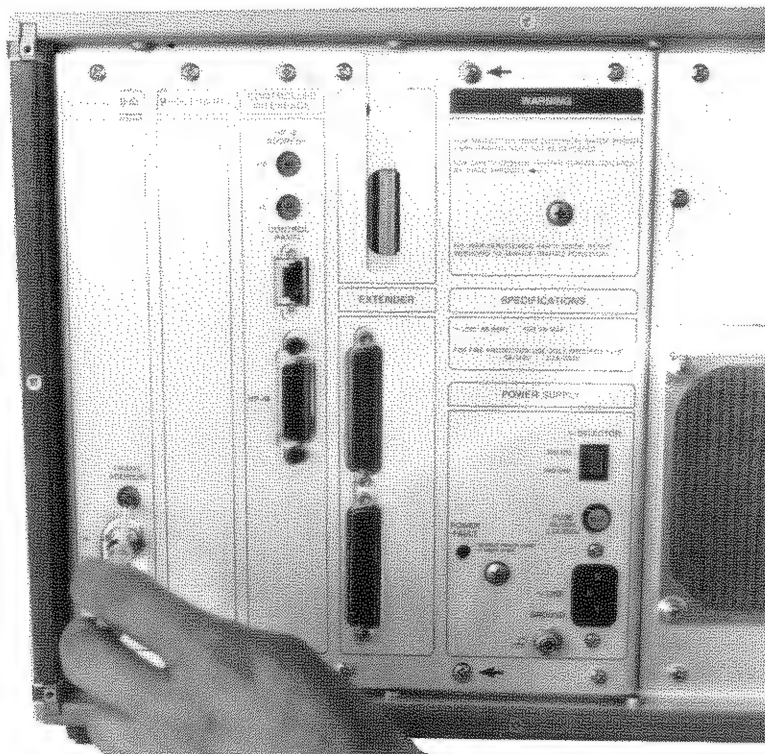

Figure 7. Setting the Frame Address.
Refer to Figure 7 for setting the frame address.
The HP-IB ADDRESS (X10 and X1) rotary switches are 10-position switches like the frame address switch of Figure 7. Set the 10's digit and 1's digit by the same procedure shown in Figure 7. If a number (NN) larger than 30 is set, the resulting address will be $NN \text{ MODULO } 30$. For example, if 57 is set, the address is $57 \text{ MODULO } 30 = 27$; if 69 is set, the address is $69 \text{ MODULO } 30 = 09$ which is the address the HP 3235 is shipped with.